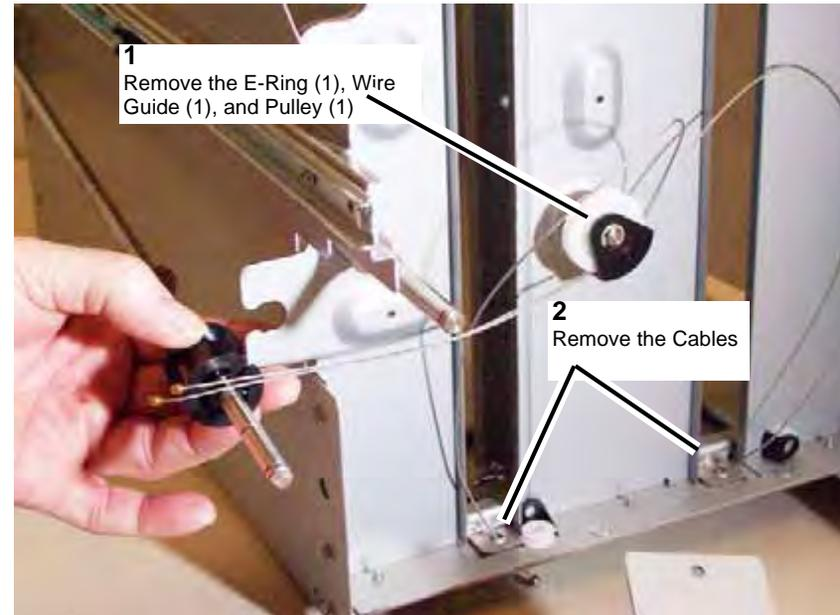
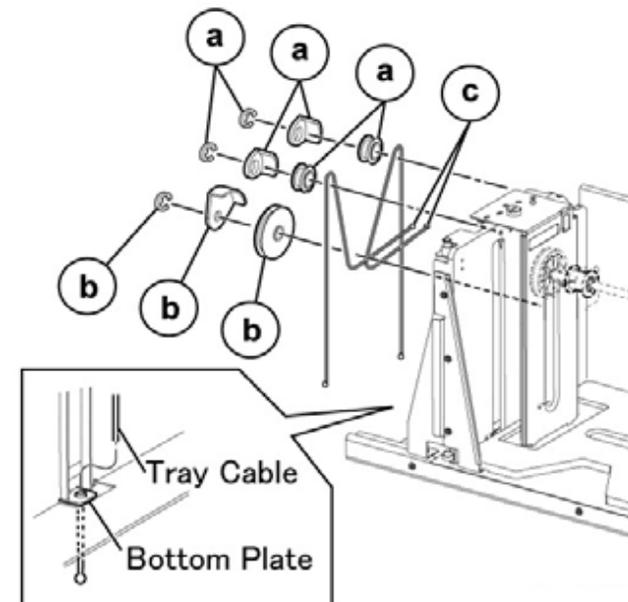

Figure 5 Removing the Rear Tray Cables
Figure 6 Rear Tray Cable details
- Remove the Rear Tray Cable (Figure 5, Figure 6).